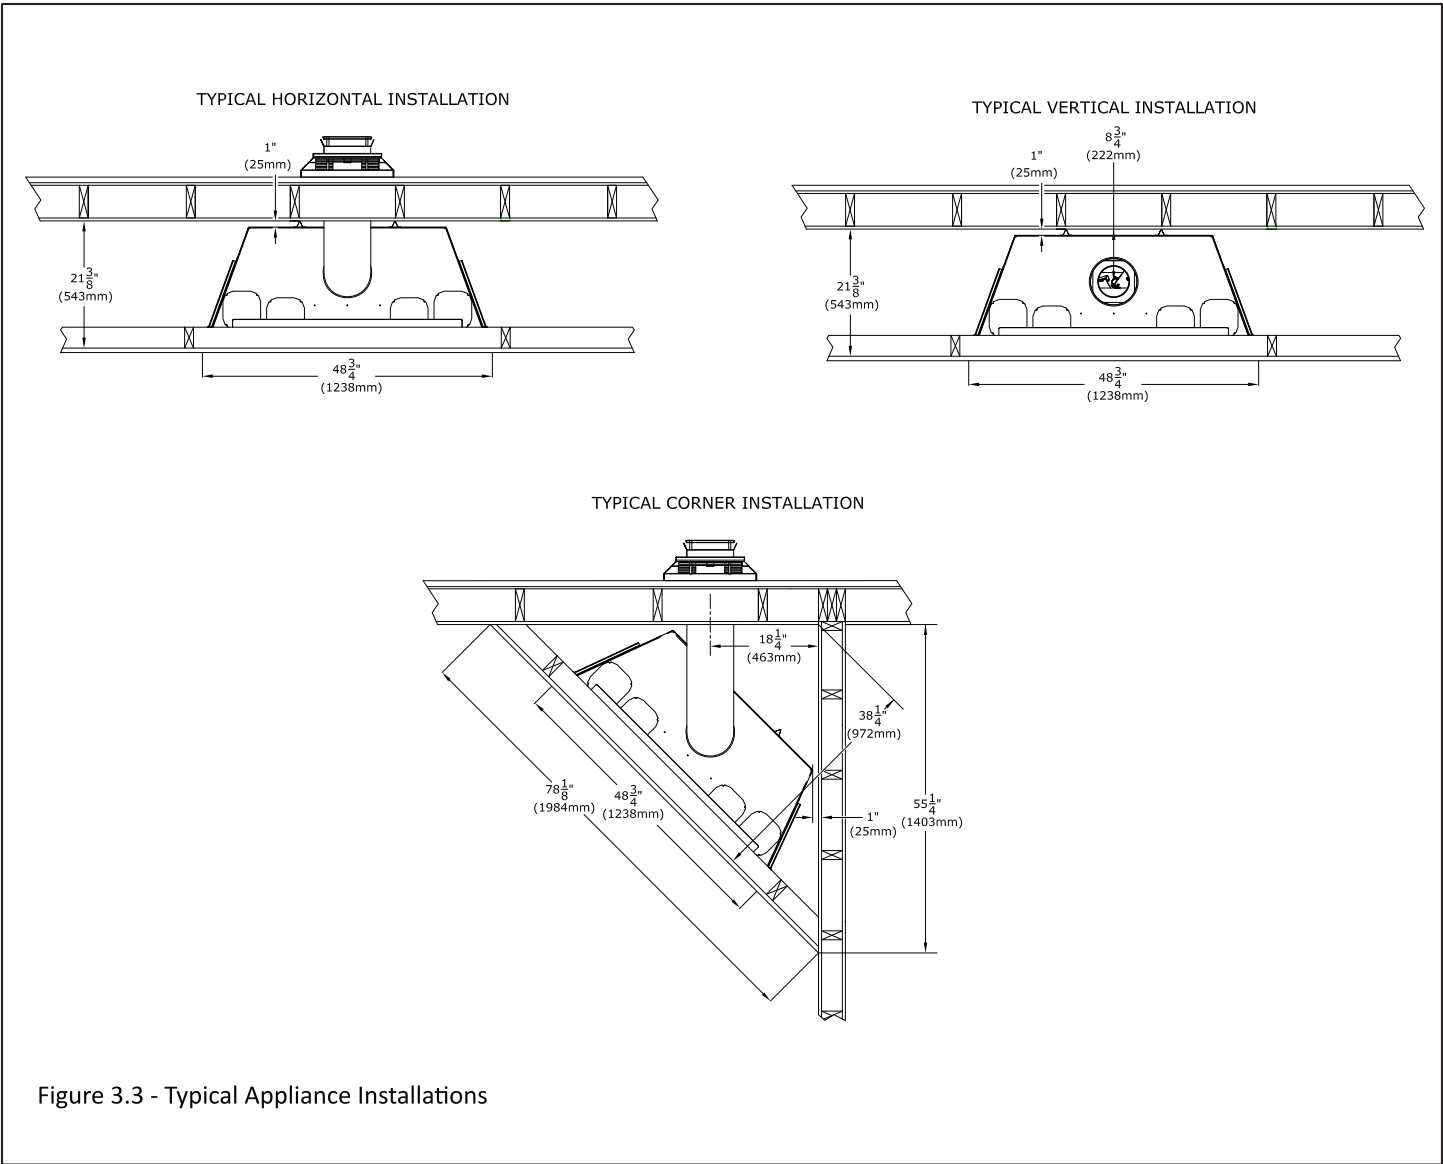

Figure 3.3 - Typical Appliance Installations
- See Figure 3.3 on the following pages for typical standard installation options.